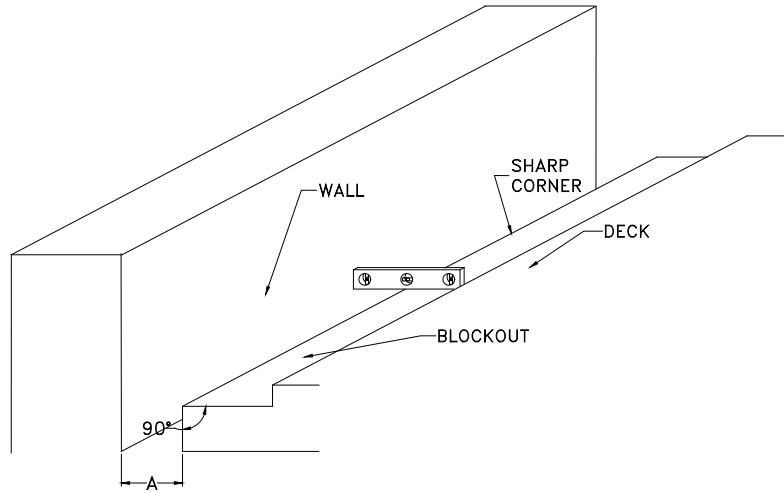

Figure 1
- B. Verify that the deck and the base of the blockout are formed level and at the same elevation across the joint (see Figure 1). Report any areas exceeding +/- 1/4 inch to Balco, Inc. for instructions prior to commencing with installation of seal.
- D. Verify that the joint interfaces are parallel to, and continuously equidistant from, each other and that they are straight and plumb. Verify that they are perpendicular to the base surfaces of the recess - making the corner a perfect "sharp" 90° angle (see Figure 1). It is critical that the leading corner on the base of the blockout, at the joint opening be a sound, square 90° corner. This ensures that the wing flange of the seal is fully supported.